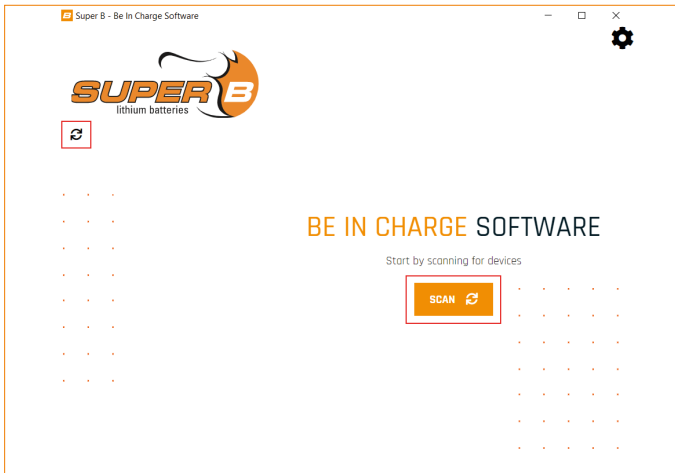

Figure 17. 'Scan' for devices
3. In order to make changes to battery node ID it is necessary to set the user level to 'Expert User' (Figure 17 and 18).